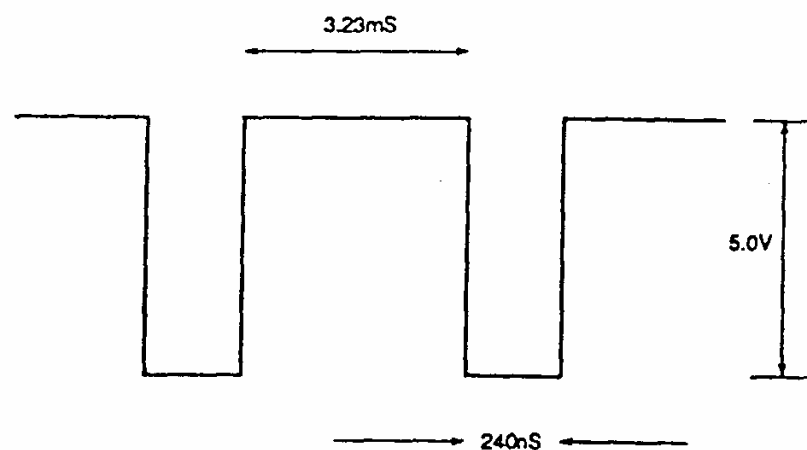

Figure 10: Example waveform
- SCSI interface - read data ('R'): pin 1 of IC3 should be as shown in Fig 10 (and not stuck either high or low).
- SCSI interface - write data ('W'): pin 11 of IC2 should be as shown in Fig 10 (and not stuck either high or low).
- SCSI interface - read status ('?'): pin 1 of IC4 should be as seen in Fig 10 (and not stuck either high or low).
- SCSI interface - write select ('S'): pin 11 of IC10 should be as seen in Fig 10 (and not stuck either high or low).
- SCSI interface - write IRQ enable 0 ('0'): pin 11 of IC10 should be as seen in Fig 10 (and not stuck either high or low). Pin 9 of IC10 should be logic 0.
- SCSI interface - write IRQ enable 1 ('1'): pin 11 of IC10 should be as seen in Fig 10 (and not stuck either high or low). Pin 9 of IC10 should now be logic 1.
- SCSI interface - read data ('R'): pin 1 of IC37 should be as shown in Fig 10 (and not stuck either high or low).
- SCSI interface - write data ('W'): pin 11 of IC38 should be as shown in Fig 10 (and not stuck either high or low).
- SCSI interface - read status ('?'): pin 1 of IC36 should be as seen in Fig 10 (and not stuck either high or low).
- SCSI interface - write select ('S'): pin 11 of IC33 should be as seen in Fig 10 (and not stuck either high or low).
- SCSI interface - write IRQ enabled 0 ('0'): pin 11 of IC34 should be as seen in Fig 10 (and not stuck either high or low). Pin 9 of IC10 should now be logic 1.
- SCSI interface - write IRQ enable 1 ('1'): pin 11 of IC34 should be as seen in Fig 10 (and not stuck either high or low). Pin 9 of IC10 should now be logic 1.